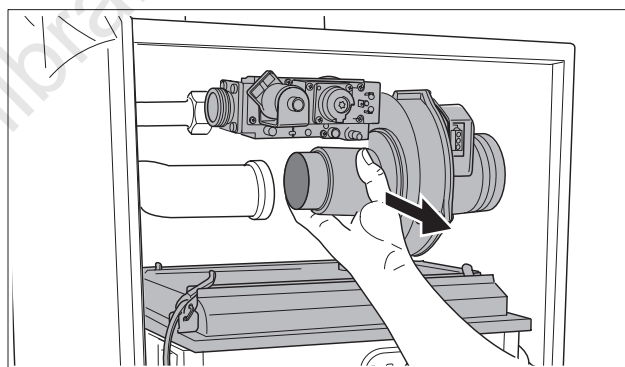

fig. 125 Removing the burner cover with the gas/air unit
- Remove the burner cover with the gas/air unit (fig. 125).